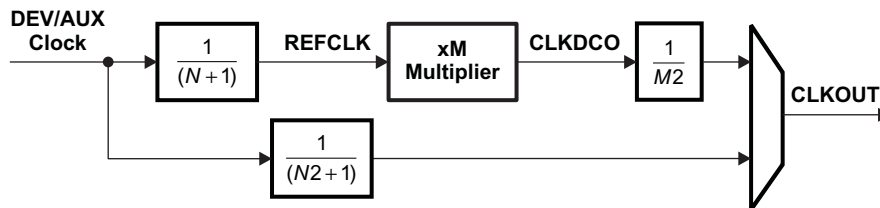
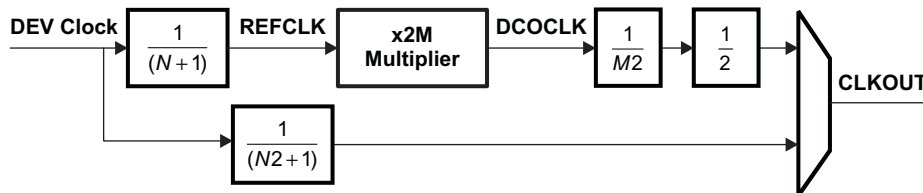

Figure 7-17. Top-Level PLL Simplified Block Diagram
Figure 7-18. PLL\_ARM Simplified Block Diagram
The device contains 10 top-level PLLs, and embedded PLLs (within the ARM Cortex-A8, SATA, and CSI) that provide clocks to different parts of the system. Figure 7-17 and Figure 7-18 show simplified block diagrams of the Top-Level PLL and PLL\_ARM. In addition, see the System Clocking Overview (Figure 7-7) for a high-level view of the device clock architecture including the PLL reference clock sources and connections.
(1) This parameter describes the limits on the programmable multiplier value M. The multiplication factor for the PLL\_ARM is equal to 2 \* M (also see Figure 7-18).
(2) The PLL Multiplier supports fractional values (up to 18-bits of fraction) except when the PLL Multiplier is < 20 OR > 2045.